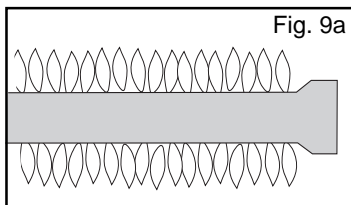

Fig. 9a
- **WARNING:** IF THE SELECTED BURNER DOES NOT LIGHT, immediately turn the burner control knob to the OFF position, to prevent gas buildup. Wait five (5) minutes for the gas to clear and then repeat the preceding starting procedure. If the burner will not light when using the Igniter, follow the match lighting instructions (see Page 8).
6. Confirm that the burner is properly lit and that the flame pattern is as desired, (see Figs. 9a, 9b & 9c, for the proper flame patterns). If the flame pattern is other than normal, consult the Troubleshooting Guide on Page 21 for corrective action.